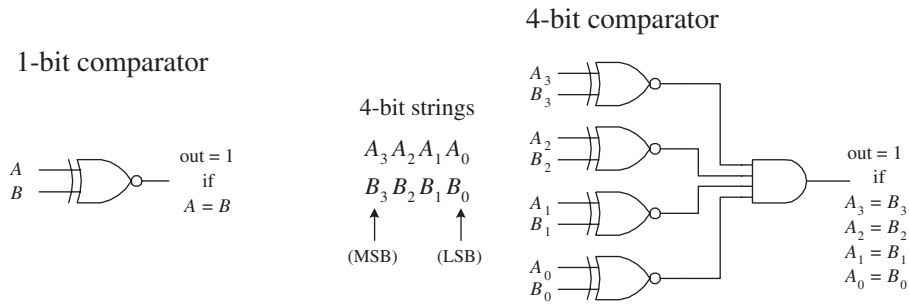
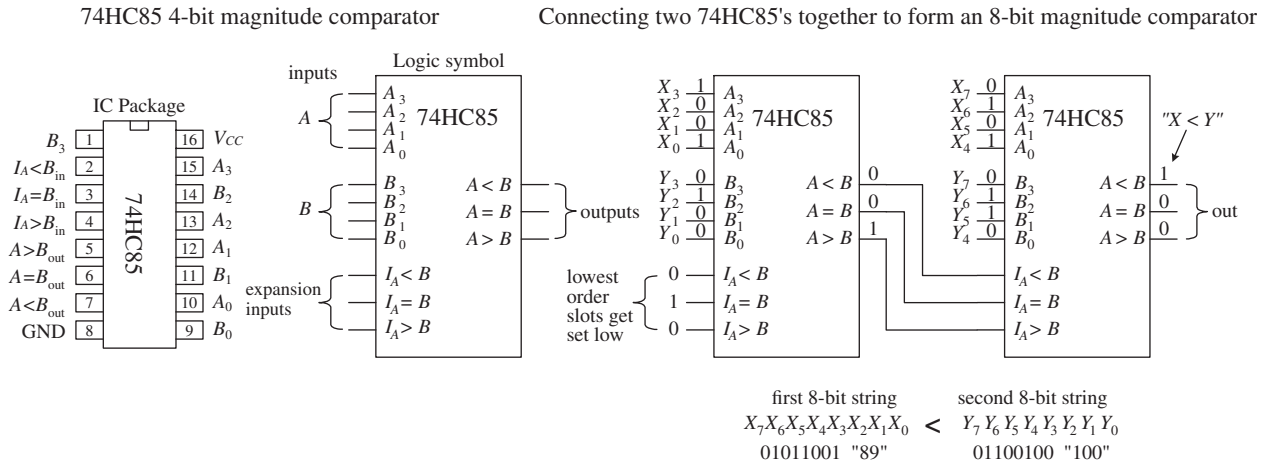

FIGURE 12.48
FIGURE 12.49
A digital comparator is a circuit that accepts two binary numbers and determines whether the two numbers are equal. For example, Fig. 12.48 shows a 1-bit and a 4-bit comparator. The 1-bit comparator outputs a high (1) only when the two 1-bit numbers A and B are equal. If A is not equal to B , then the output goes low (0). The 4-bit is basically four 1-bit comparators in one. When all individual digits of each number are equal, all XOR gates output a high, which in turn enables the AND gate, making
Now, say you want to know which number, A or B , is larger. The circuits in Fig. 12.48 will not do the trick. What you need instead is a *magnitude comparator* like the 74HC85 shown in Fig. 12.49. This device not only tells you if two numbers are equal, but also which number is larger. For example, if you apply a 1001 (9_{10}) to the $A_3A_2A_1A_0$ inputs and a second number 1100 (12_{10}) to the $B_3B_2B_1B_0$ inputs, the $A < B$ output will go high (the other two outputs, $A > B$ and $A = B$, will remain low). If A and B were equal, the $A = B$ output would have gone high, and so on. If you wanted to compare larger numbers—say, two 8-bit numbers—you simply cascade two 74HC85 comparators together, as shown on the right side of Fig. 12.49. The leftmost 74HC85 compares the lower-order bits, while the rightmost 74HC85 compares the higher-order bits. To link the two devices together, you connect the output of the lower-order device to the expansion inputs of the higher-order device, as shown. The lower-order device's expansion inputs are always set low ($I_A < B$), high ($I_A = B$), and low ($I_A > B$).